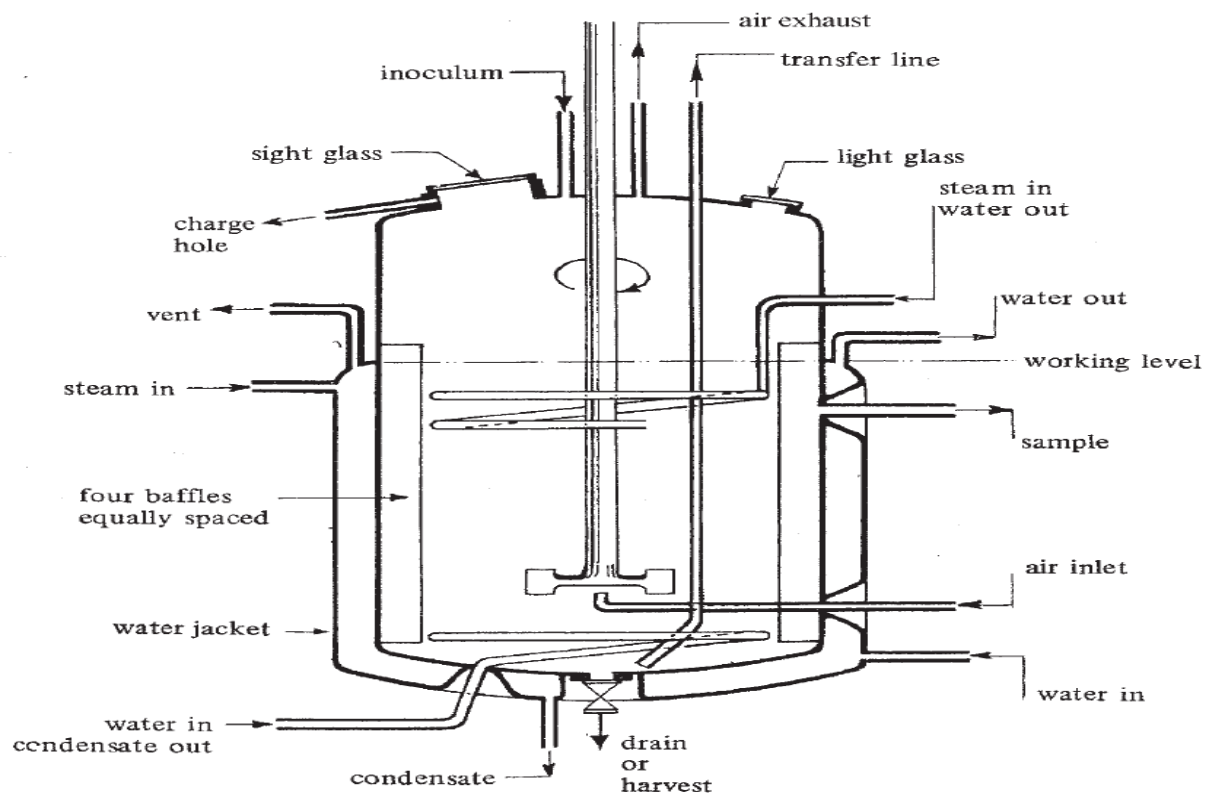
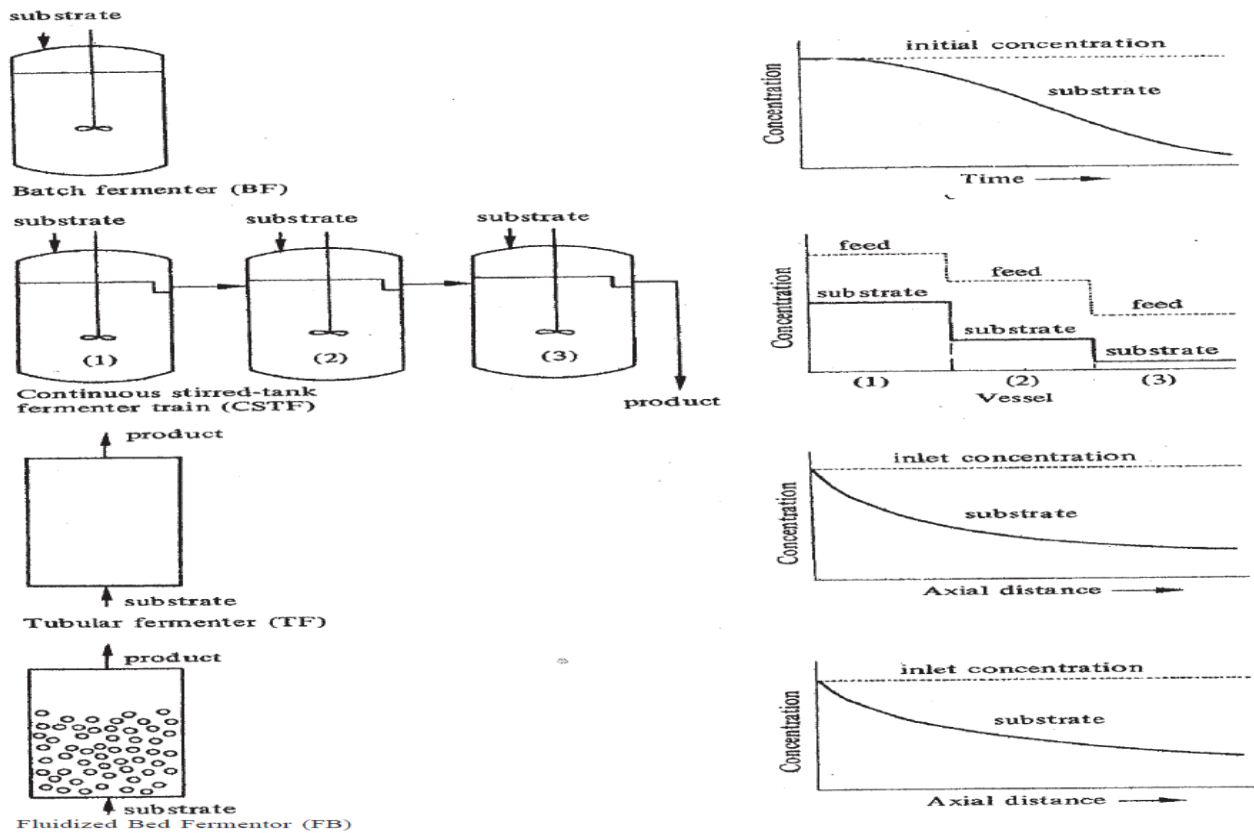

Fig. 9.1 Structure of a Typical Fermenter (Stirred Tank Batch Bioreactor)
Fig. 9.6 Different Fermenter Configurations (Left) and Graphs Depicting Substrate Usage in the Various Configurations (Left) (see also Fig. 9.7)
A typical fermenter of this type (Fig. 9.1)
(1) Batch fermenters (Stirred Tank Batch fermenters): (designated BF in Fig. 9.6) and Fig. 9.1. The other three are continuous fermenters and these are described below.
(2) Continuous stirred tank fermenters: (CSTF in Fig. 9.6) The tank used in this system is essentially similar to that of the batch fermenter. It differs only in so far as there is provision for the inlet of medium and the outlet of broth. The system has been described under continuous cultivation.
(3) Tubular fermenters: (TF in Fig. 9.6) The tubular fermenter was originally so named because it resembled a tube. In general tubular fermenters are continuous unstirred fermenters in which the reactants move in a general direction. Reactants enter at one end and leave from the other and no attempt is made to mix them. Due to the absence of mixing, there is a gradual fall in the substrate concentration between the entry point and the outlet while there is an increase in the product in the same direction.